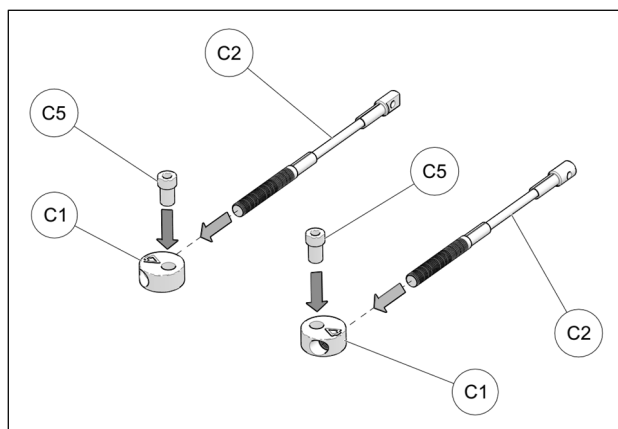

Fig. 21
12. Assemble steering limiter cables (C2), aluminum disks (C1) and step spacers (C5) together as shown on Fig. 21